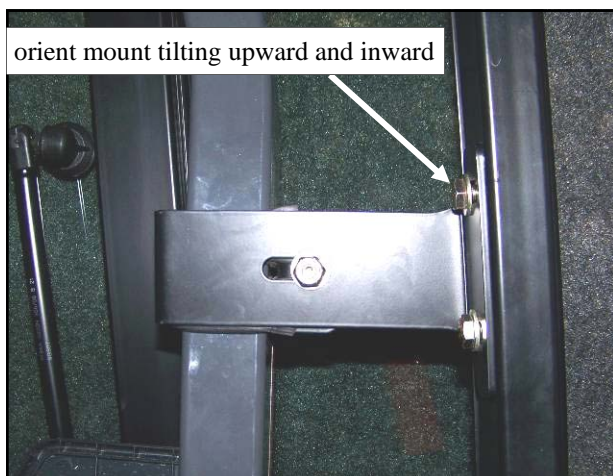
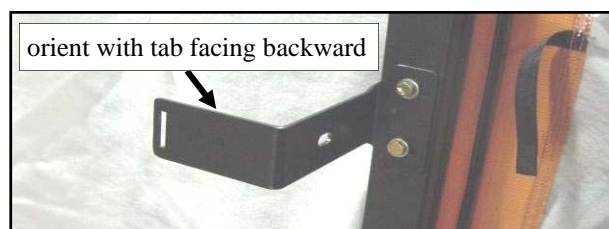

Fig. 9.1.1 (inside view of left side frame from front)
Fig. 9.1 (inside view of left side frame)
**9.1** Attach as shown with the long slotted tab facing the rear of the vehicle per fig. 9.1 and the 2-hole tab tilting inward and upward per fig. 9.1.1. Install the upper R.O.P.S. mount 2 to the cab side frame using the following hardware per side: two 5/16-18 x 3/4" long hex head bolts and two steel washers into factory installed threaded inserts in the side frame tubing. Leave bolts loose. Reminder: use caution to avoid damaging the internal threads on the factory installed threaded inserts.